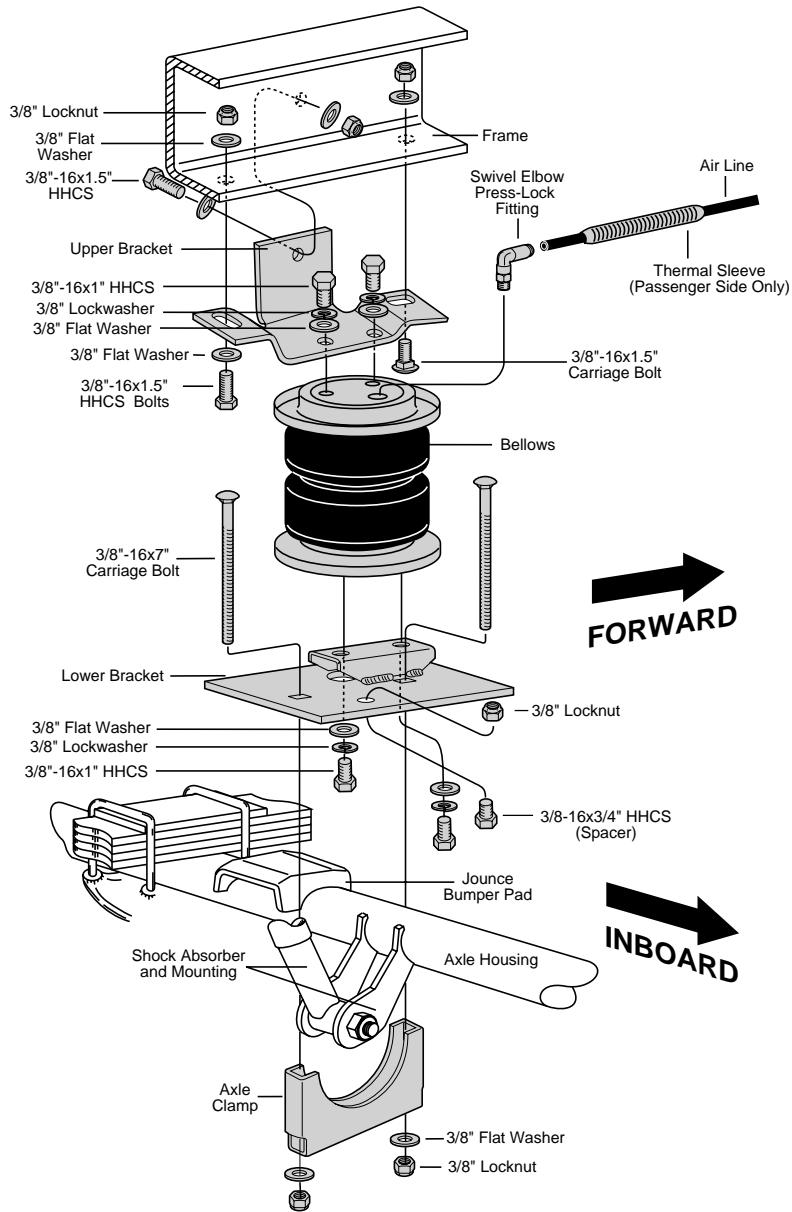

FIGURE 1
2. Lower axle or raise frame an additional 2 - 3 inches to provide clearance when positioning air spring assembly. **NOTE: IF THE VEHICLE IS EQUIPPED WITH A FACTORY SWAY BAR, IT WILL BE NECESSARY TO SET THE LOWER AXLE CLAMP IN PLACE BEFORE LOWERING AXLE (FIGURE 1).**
5. A spacer is required so that the lower bracket sits level on the axle housing/jounce bumper pad. Insert 3/8-16x3/4" HHCS bolt through lower bracket and secure with 3/8" lock nut (Figure 1). The spacer should sit inboard of the jounce bumper pad (Figure 2).
6. Put the 3/8-16x7" carriage bolts into the rectangle holes in the lower bracket. Attach the bellows onto the upper and lower brackets using the round holes in the upper and lower brackets using the round holes with the 3/8"-16x1" mounting bolts, flat washers, and lock washers. **There are right and left hand units (marked).** Tighten to 15-20 ft-lbs. (Figure 1).
7. Place the assembly on the axle housing, guide the carriage bolts through the axle clamp and align so that the bellows follows the natural arc of the suspension travel. Attach lower bracket to axle housing loosely using axle clamp, flat washers and locknuts (Figure 1 &4).
9. With the upper bracket in this position, and using the bracket as a template, mark and drill the 3/8" hole on the OUTBOARD side of the frame rail through the upper bracket. Install the 3/8-16x1.5" HHCS bolt, flat washer and locknut and tighten to 20 ft.lbs. Tighten the two bolts previously installed (Figure 1).
**TO PREVENT AIR LINE FROM MELTING, KEEP IT AT LEAST TWELVE INCHES FROM EXHAUST SYSTEM. USE THERMAL SLEEVE ON EXHAUST SIDE (FIGURE 1).**